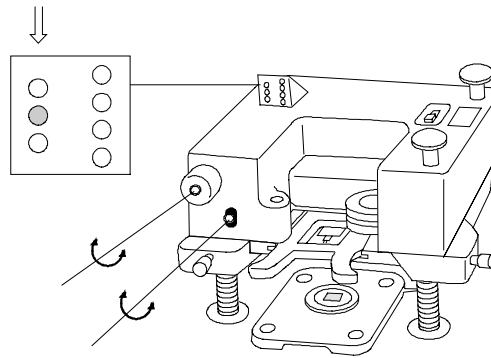

Figure 2-24. Adjusting the PSPD position using the PSPD adjustment screws.
7. The controls for adjusting the position of the PSPD are pictured in Figure 2-24. Using the small allen wrench supplied with AutoProbe CP, adjust the position of the PSPD forward/backward adjustment screw until you see the green light. You may also turn the PSPD forward/backward adjustment screw by hand if you prefer.